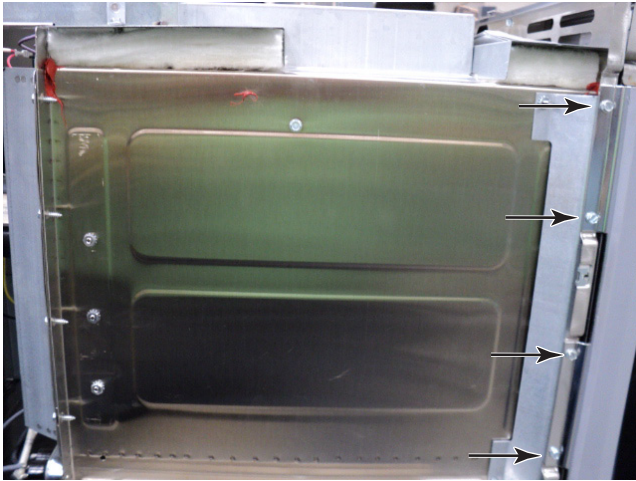

Figure 15
17. Remove four hex head nuts from door hinge. **Note:** Support door when removing screws to prevent door from falling off (Figure 15).